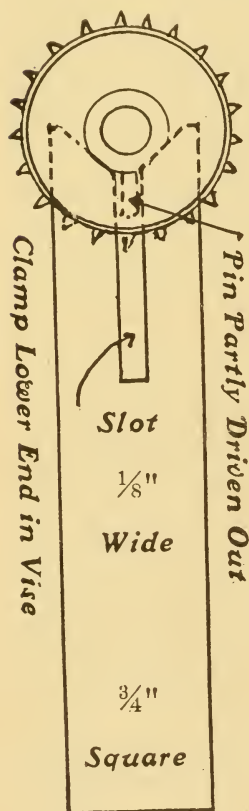

FIGURE 65
(53) In the event you do not care to purchase the pin ejector, you can make a V block as shown in Fig. 65. If